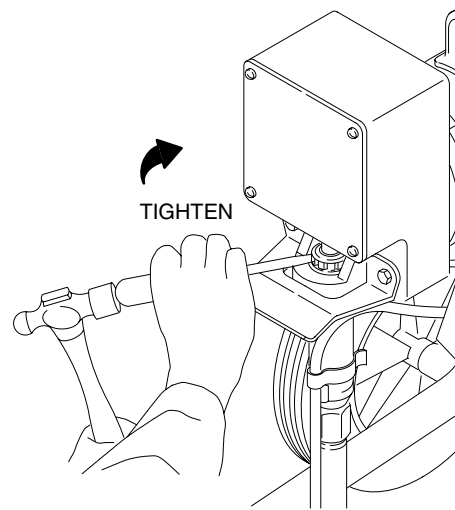

Fig. 5
1. **Check the packing nut/wet cup daily.** First, follow the **Pressure Relief Procedure Warning**, page 4. The packing nut should be tight enough to stop leakage – no tighter. Use a rod and a light hammer to adjust the nut. See Fig. 5. Don't overtighten! Overtightening may cause binding and excessive packing wear.